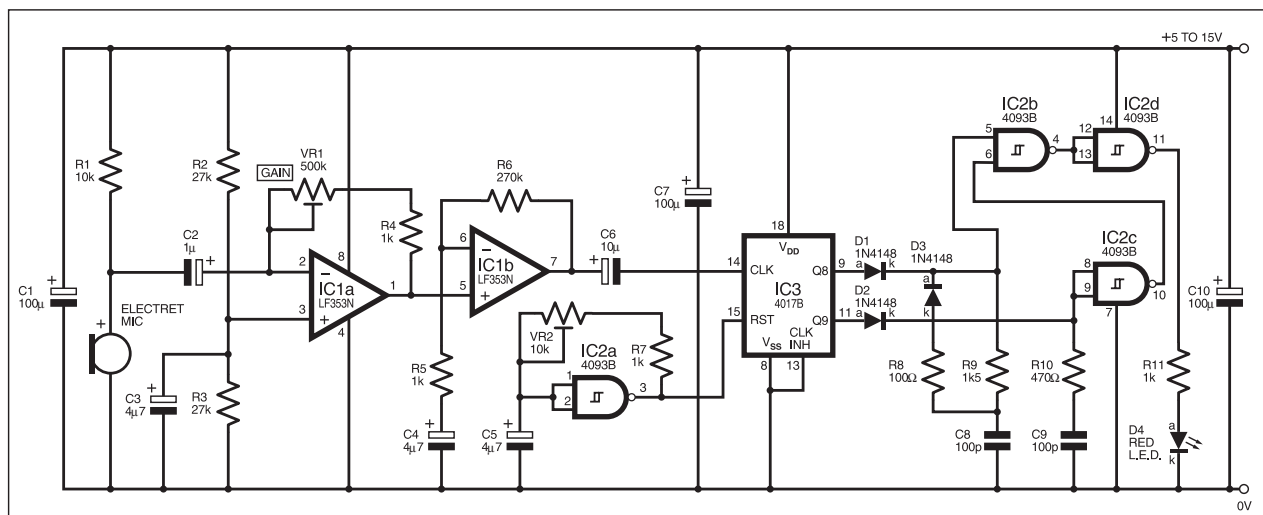

Fig.1. The sensitive Frequency Switch circuit.
**M**OST sound switches are characterised by a distinct lack of selectivity – among them the well known clap switch and doorbell extender. Contrasted with this, the Frequency Switch of Fig.1 responds only to a narrow passband, which has the width of about one tone at all frequencies. It is also exceedingly sensitive with a potential range of some 50 metres when triggered with a tin whistle.